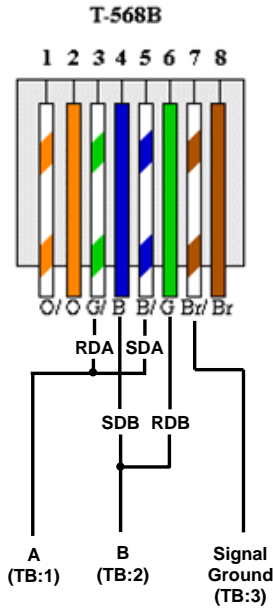
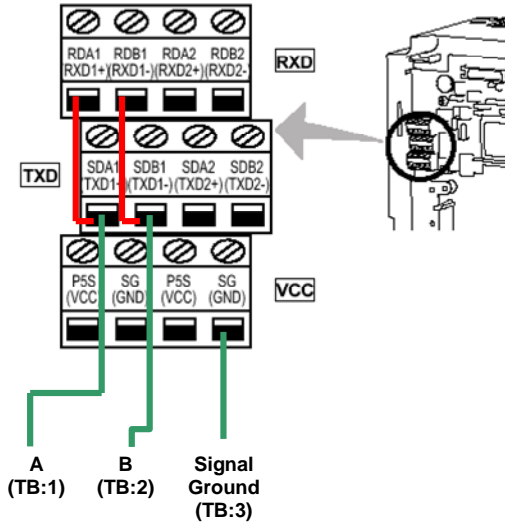

Figure 35: PU Port Connections
Figure 36: 700-Series ASD Connections
Connect as shown in Figure 35.
- For 700-series drives, the gateway can connect to the ASD via either the PU (panel) connector as indicated in Figure 35, or via the on-board RS485 terminals. Because both of these ports externally present a 4-wire RS485 network, connecting them to the gateway requires jumpering the network wires for 2-wire format (i.e. connecting SDA-RDA and SDB-RDB). When using the on-board RS485 terminals, connect as shown in Figure 36.